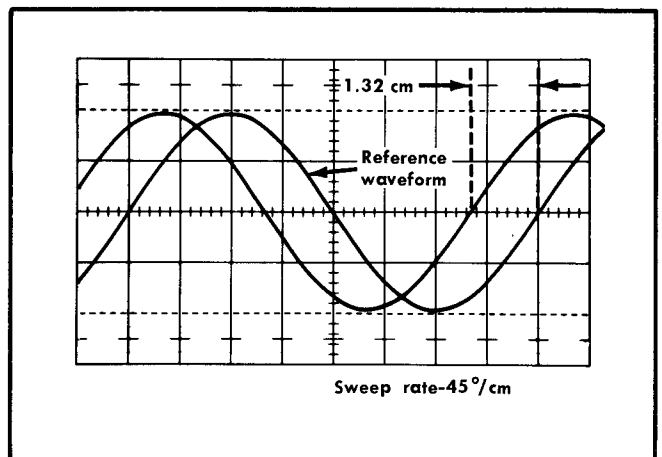

Fig. 2-24. Double exposure photograph of crt display used for making a phase-angle measurement between two signals (see text).
5. Adjust the Time/Cm VARIABLE control so that one cycle of the waveform covers exactly 8 cm of the graticule (to calibrate the sweep at  $45^\circ/\text{cm}$ ). At the same time, adjust the TIME POSITION control so the waveform rise crosses the horizontal centerline at the 1-cm and 9-cm vertical graticule lines (see Fig. 2-24).
For example, Fig. 2-24 shows phase comparison between two 10-Mc sine waves. The horizontal deflection of 1.32 cm multiplied by  $45^\circ/\text{cm}$  gives a phase difference of  $59.5^\circ$ . The first (reference) waveform in this example lags the second waveform by  $59.5^\circ$ , since it lies to the right in the display.